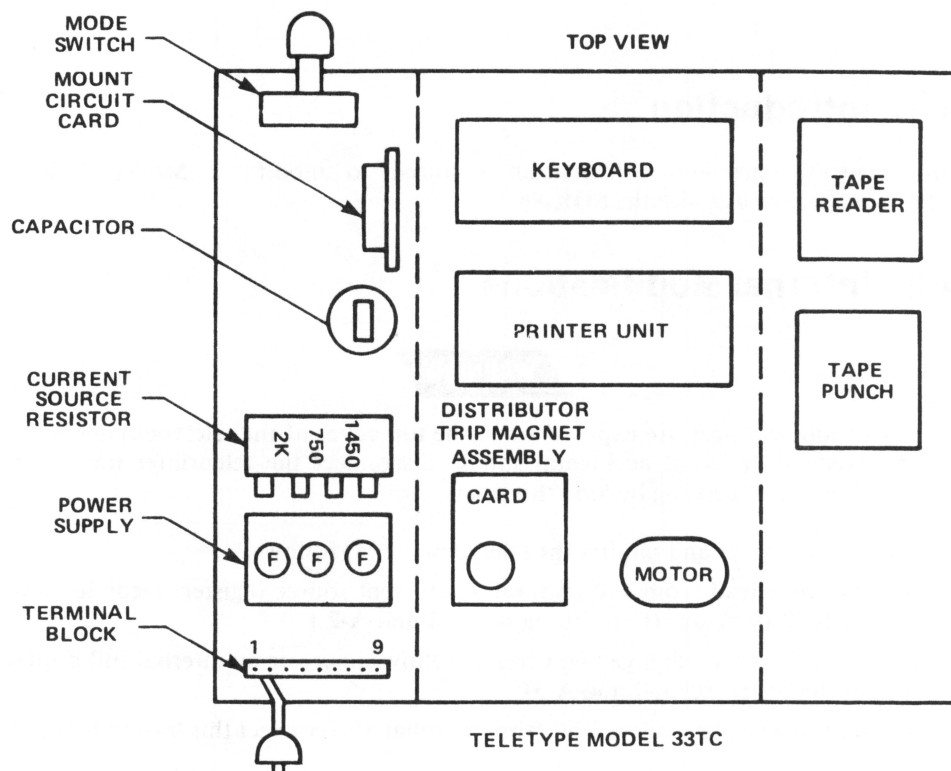

Figure A-1. Teletype Component Layout
- a. Remove blue lead from 750-ohm tap on current source register; reconnect this lead to 1450-ohm tap. (Refer to figures A-1 and A-2.)
- b. On terminal block, change two wires as follows to create an internal full-duplex loop (refer to figures A-1 and A-3):